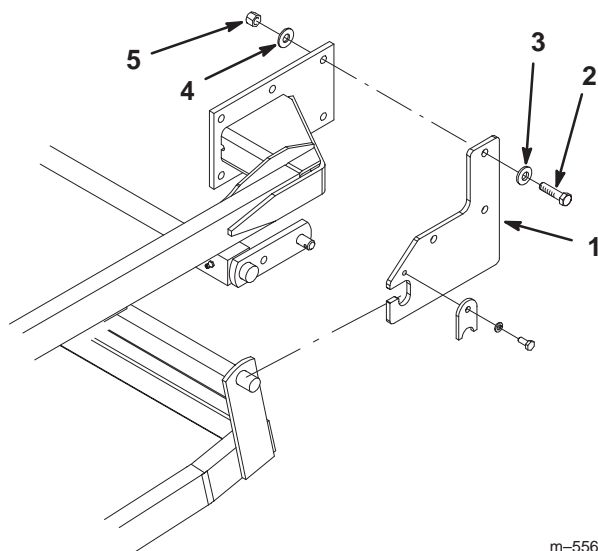

Figure 5
3. Attach a support plate to each side of the traction unit frame using 3 bolts (3/8 x 1-1/2 in.) and the washers and locknuts that were removed in step 2 (Fig. 5). Torque the bolts to 30 ft.-lb. (41 N·m).